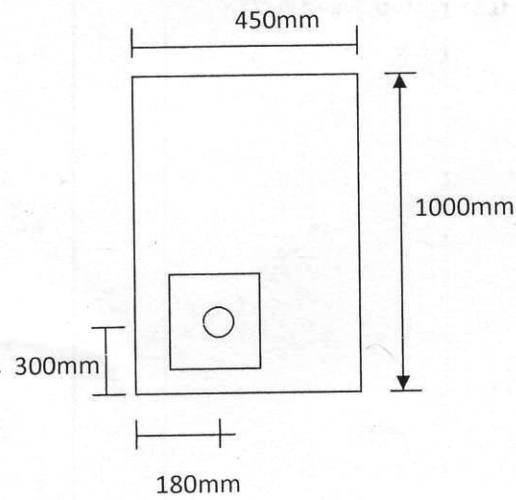

Figure 4
6. (a) Determine the bearing plate area required for the tendons shown in figure 4. Follow the specifications of the post tensioning institute for allowable bearing stresses in concrete. Use $f_{ci} = 28$ MPa, $f_c = 35$ MPa, Maximum jacking force = 1700 kN, Force at service load = 1300 kN. Diameter of hole = 120 mm. (17)